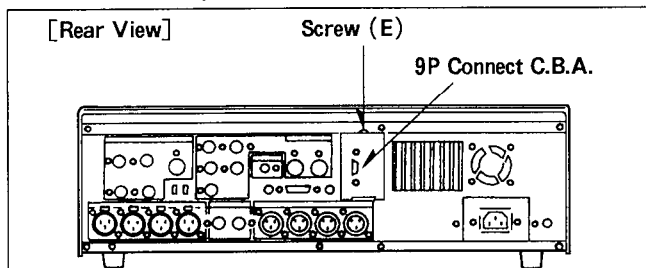

Figure D6
1. Unscrew a screw (E) on the 9 pin Connect C.B.A. (Figure D6)